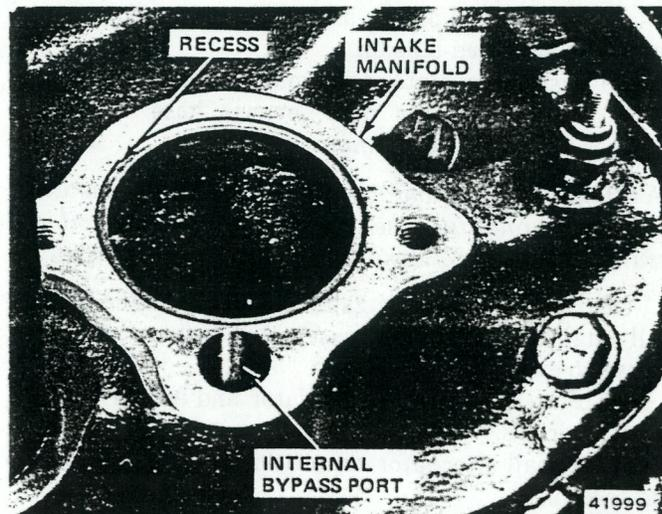

Fig. 1C-7 Thermostat Recess—Eight-Cylinder Engine
(2) Insert 0.003-inch (0.076-mm) feeler gauge, with wire or string attached, between valve and seat (fig. 1C-3).